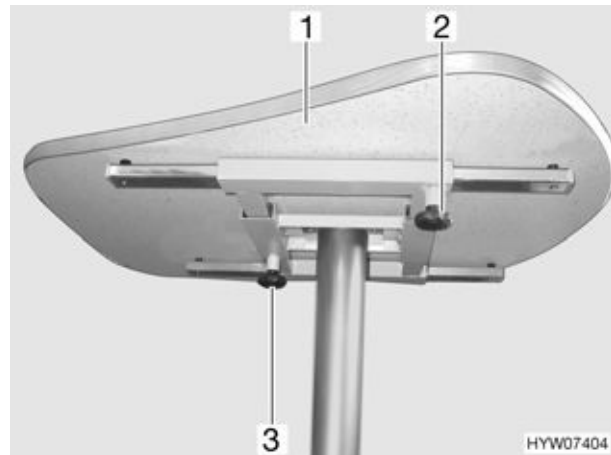

Fig. 67 Fixed table with rigid table leg
- Undo the knurled screw (Fig. 67,2).
- Move the table-top (Fig. 67,1) into the desired position.
- Undo the knurled screw (Fig. 67,3).